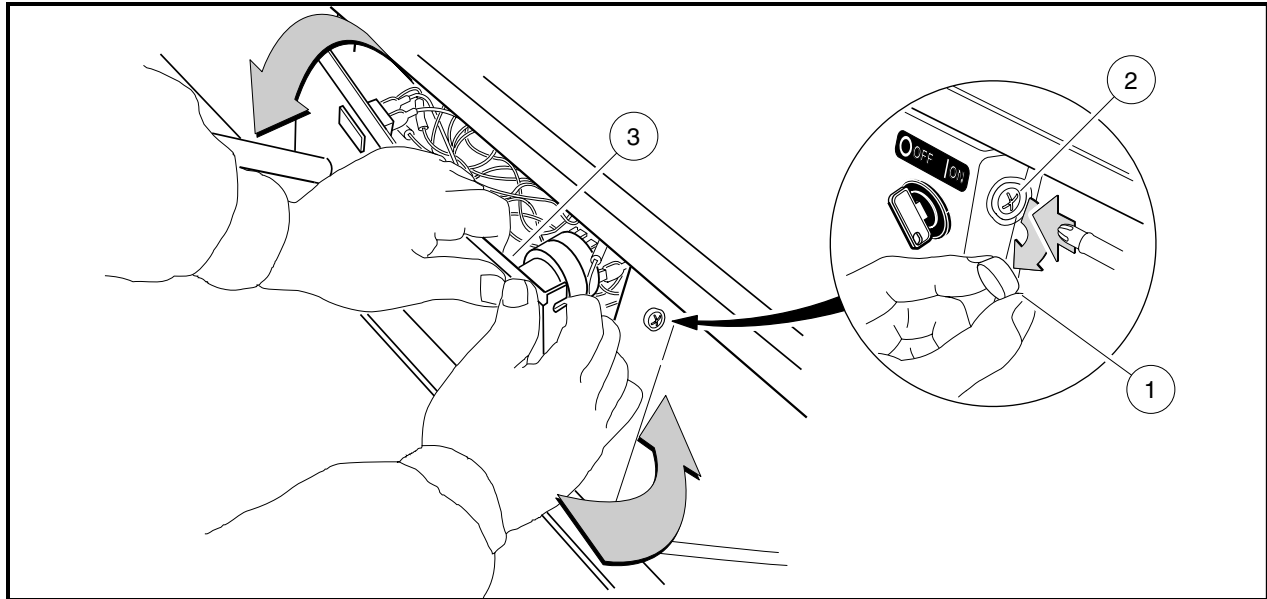

Figure 7-3 Dash Removal
3. Remove the center dash panel (**Figure 7-3, Page 7-4**).
- 3.1. Remove the plastic cap (1) covering the mounting screw (2) on each side of the center dash panel (3) (**Figure 7-3, Page 7-4**).